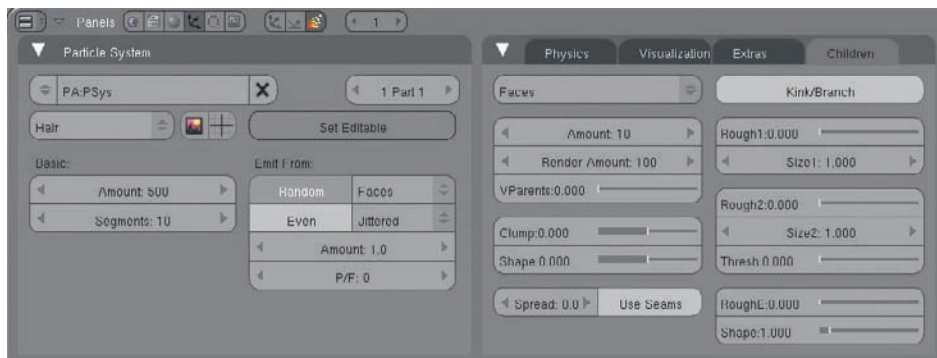

Figure 4.9 Setting up hair particle children
4. The strands here are far too sparse to make convincing hair. One solution might be to increase the number of strand particles. However, this would place great demands on memory and processing resources, because each particle's behavior would need to be calculated independently. In fact, we can get the effect we're after with *fewer* particles than the default by using the Children feature. To do this, first set the particle count to 500 instead of 1000; 500 hair strands will provide more than enough information to yield a convincing hair effect on a simple shape such as a ball. To add the required density, go to the Children tab and select Faces from the drop-down menu, as shown in Figure 4.9. Children particles follow the behavior of the real particles nearest them, and for this reason it is much more efficient to calculate their behavior in terms of physics, styling,